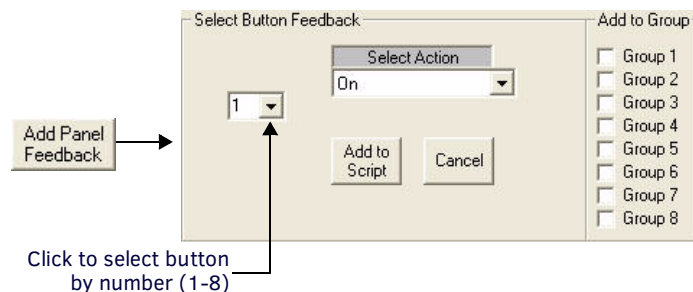

FIG. 47 Select Button Feedback window
2. Click on the **Add Panel Feedback** button in the Command Bar to invoke the *Select Button Feedback* window (FIG. 47). The selected button will be listed as the default although any button may be selected, via the drop-down menu on the left side of the window.
- Click on **Add Panel Feedback** to invoke the *Select Button Feedback* window (FIG. 47 on page 36).